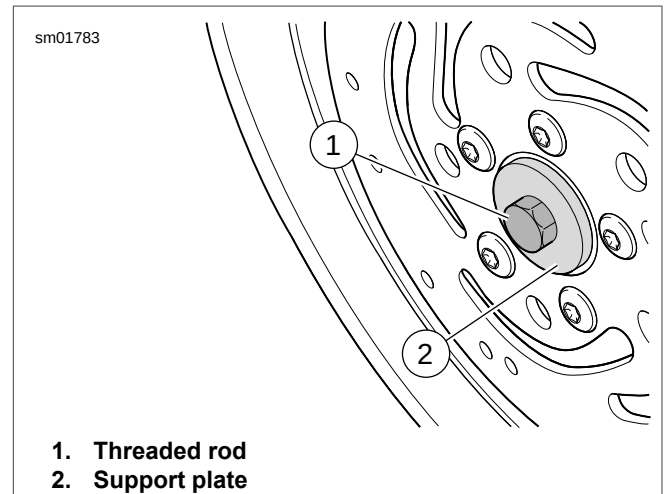

Figure 2-24. Assembling Installation Tool
- b. See Figure 2-24. Place threaded rod (1) through support plate (2). Insert assembly through wheel.